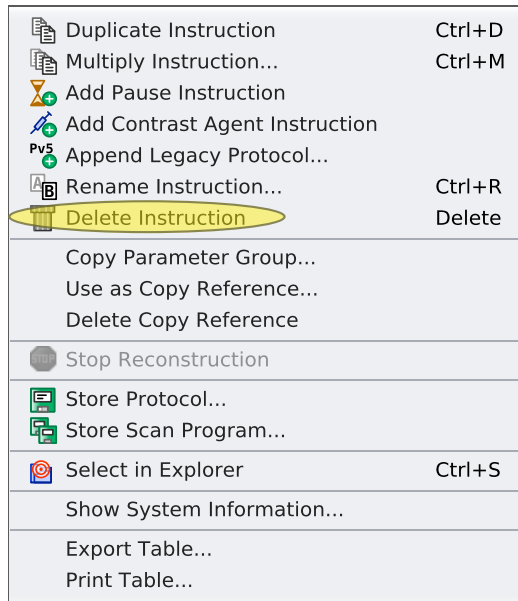

Figure 1.21: Context Menu Examination Card
- Open the context menu (see [Figure 1.21 \[p 47\]](#)) and invoke **Delete Instruction** or use the key on the keyboard.